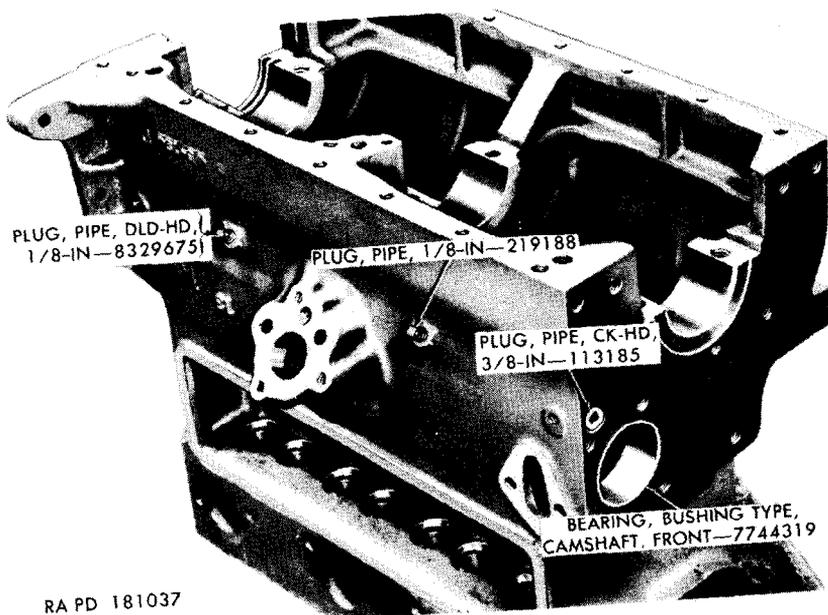
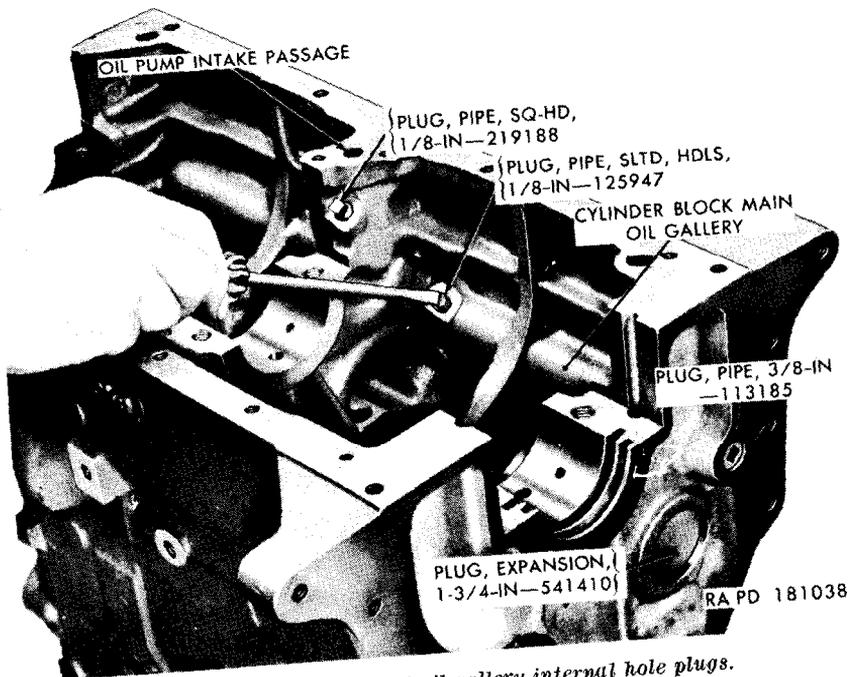
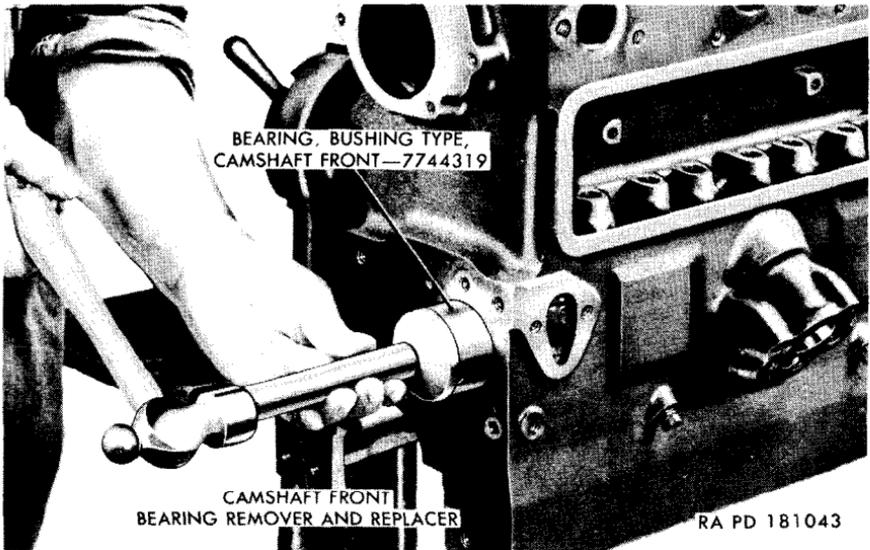

Figure 26. Location of oil gallery external hole plugs.
Figure 27. Location of oil gallery internal hole plugs.
Figure 32. Installing camshaft front bearing.
a. Remove the two pipe plugs (fig. 26) from the left outside surface of the cylinder block. Remove the two countersunk-head pipe plugs (fig. 26), one from each end of the block. Remove the slotted-head-less pipe plug (fig. 27) from the cylinder block main oil gallery, and
the square-head pipe plug (fig. 27) from the tapped opening just below the oil pump intake passage inside the cylinder block.
b. Insert a 24-inch length of 1/2-inch bar stock into the camshaft bore in the cylinder block and drive against the bar to dislodge the expansion plug (fig. 27) from its seat in the rear end of the cylinder block.
c. Check the inside dimension of the front camshaft bushing type bearing (fig. 26). If the dimension does not exceed 2.1880 inch, the bearing need not be removed. If removal of the bearing is necessary, use the improvised camshaft front bearing remover and replacer (fig. 32) and drive the bearing out of the cylinder block.
- (2) Clean the cylinder block main oil gallery (fig. 27) and the smaller oil passages in the cylinder block using round wire brushes slightly larger in diameter than the passages. Force flush the passages using cleaning fluid under pressure.
b. Coat the threads with plastic type gasket cement and install the two ⅜-inch countersunk-head oil gallery pipe plugs (A), one in each end of the cylinder block (fig. 27). Install the two ⅛-inch square-head pipe plugs (L and J) in the openings in the oil passage on the left outside of the engine, making sure the plug with the drilled-head (L) is installed in the hole nearest the rear end of the engine (fig. 26).
c. Install the ⅛-inch slotter-headless pipe plug (K) in the opening in the main oil gallery inside the cylinder block (fig. 27). Install the ⅛-inch square-head pipe plug (J) in the opening in the oil passage directly below the oil pump intake passage.
d. If necessary, replace the camshaft front bushing type bearing (par. 50c), using the improvised camshaft front bearing remover and replacer (fig. 32). Slide the bearing onto the arbor of the remover and replacer, notched end first. Aline the oil hole in the bearing with the oil hole in the bore in the cylinder block and drive the bearing into the bore until the front end of the bearing is flush with the front surface of the cylinder block.